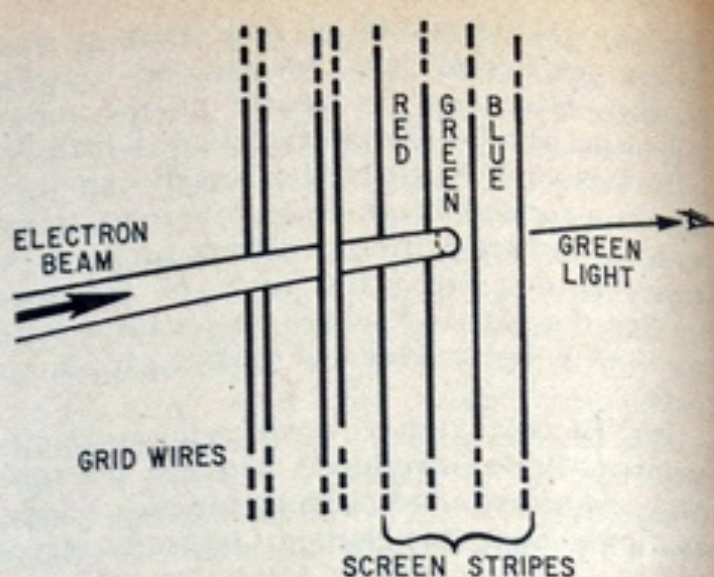

Fig. 4. Electron beam passes between grid wires undeflected—shown striking green phosphor stripe between red and blue ones.
**Grid Wires.** Let's examine a small section of the screen and the grid which lies just behind it, as illustrated in Fig. 4. The screen consists of thin stripes of phosphor material which emit red, green or blue light when struck by electrons. (Only three are shown for clarity, but they are repeated over the whole screen width. Note the position of the two grid wires shown. Since the electron beam is passing between them, striking only the middle phosphor stripe, the color green would be produced at this instant.